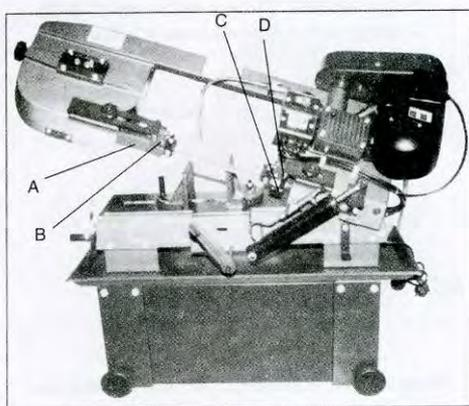

Fig.10
3. Remove red blade guard assembly (A, Fig.10) by removing two screws (B).
4. Remove brush assembly (C) by removing two screws (D).